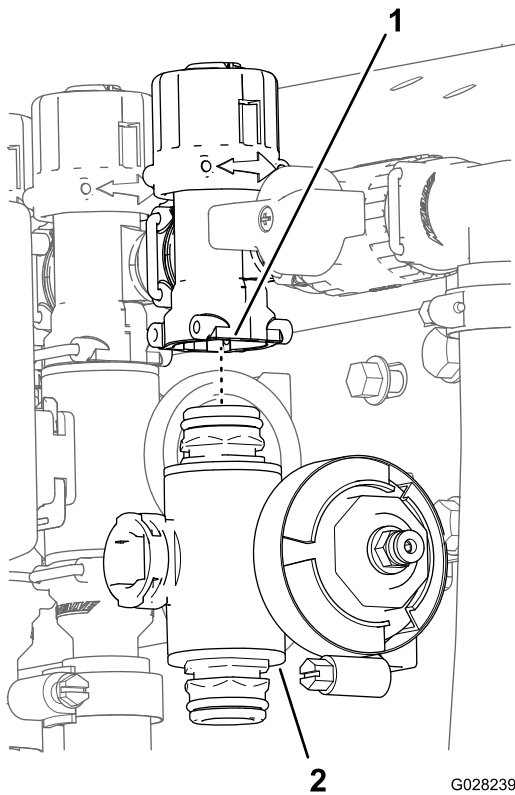

**Figure 137**
2. Remove the retainer that secures the section valve manifold to the bypass fitting (Figure 137).